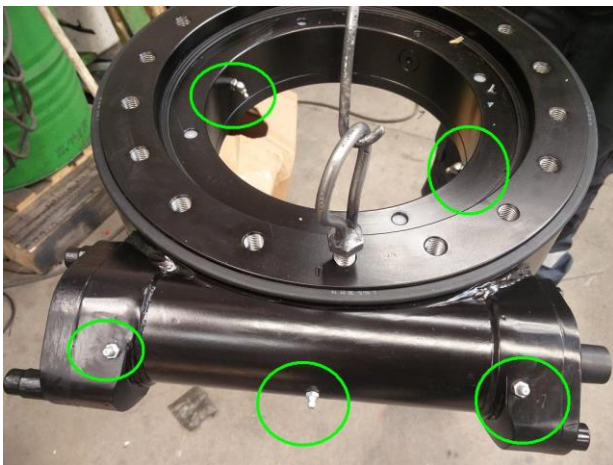

Figure 15: Slewing ring greasing
The slewing ring of the access platform must be greased monthly, according to the maintenance schedule. It is important to notice that the slewing ring has five (5) separate greasing points (Figure 15) which all must be greased individually. The grease nipples on the outside of the slewing ring are connected to the gear and its bearings. Two (2) grease nipples on the inside of the slewing ring are connected to the ring's ball bearings. Easiest way to apply grease on these two grease nipples is through the service hatch on the bottom of the chassis.